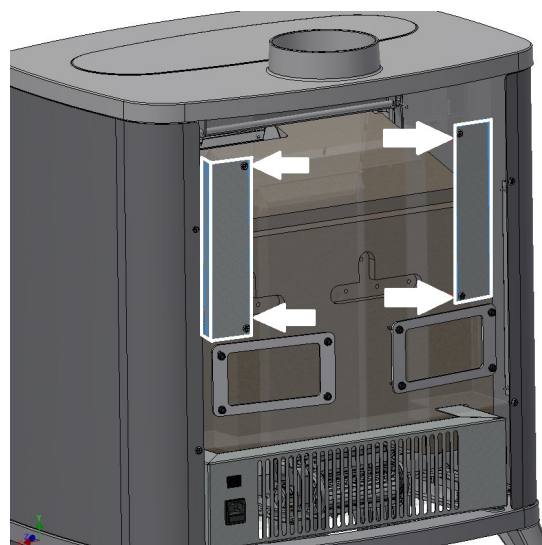

Fig. 16 - Re-tighten brackets
- To close the holes, retighten the opposite brackets **Fig. 16**.